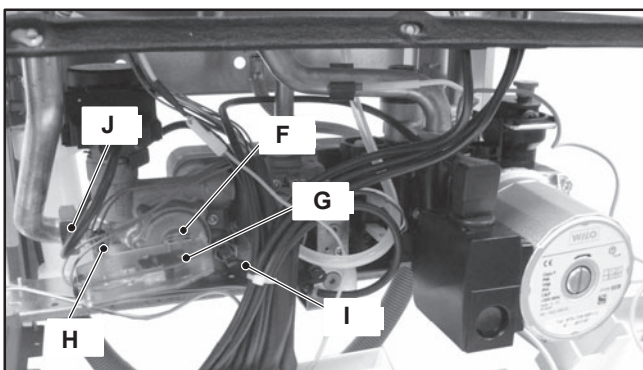

Figure 8.5
- 4 Remove the fixing spring F (Figure 8.5) and remove the primary circuit flow switch G.